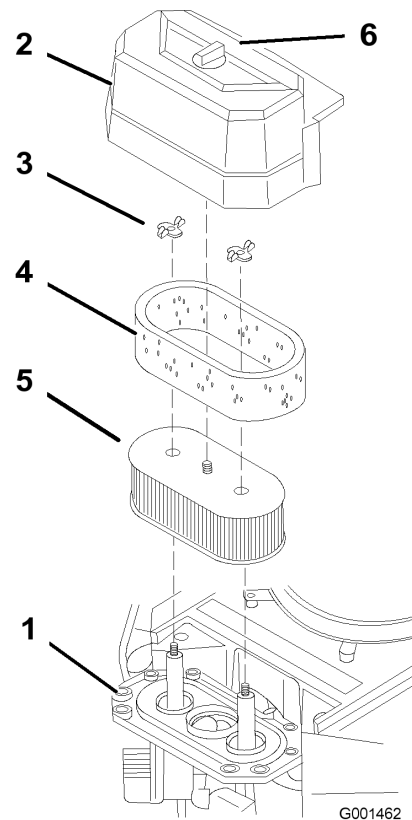

Figure 31
3. Clean around the air cleaner to prevent dirt from getting into the engine and causing damage (Figure 31).
4. Unscrew the cover knob and remove the air cleaner cover (Figure 31).
5. Remove the 2 wing nuts and remove the air cleaner assembly (Figure 31).
6. Carefully pull the foam element off the paper element (Figure 31).
1. Do not clean the paper filter. Replace it after 200 operating hours (Figure 31).
1. Carefully slide the foam element onto the paper air cleaner element (Figure 31).
2. Place the air cleaner assembly onto the air cleaner base and secure it with the 2 wing nuts (Figure 31).
3. Place the air cleaner cover into position and tighten the cover knob (Figure 31).